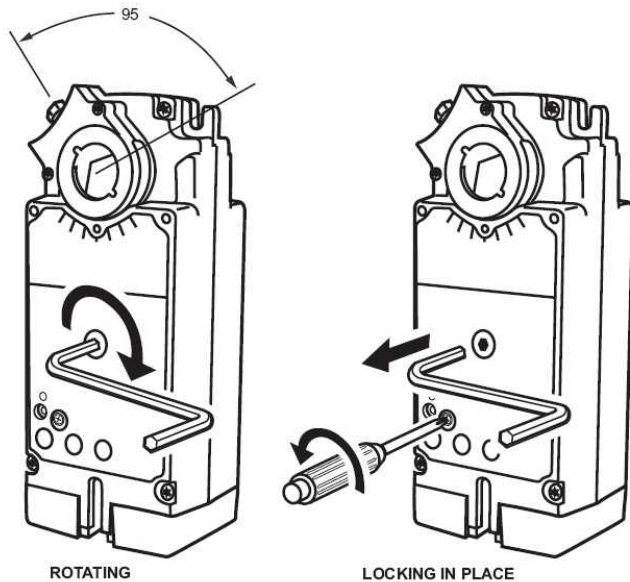

Fig. 5. Manual positioning.
2. Insert supplied hex wrench (key) as shown in Fig. 5.